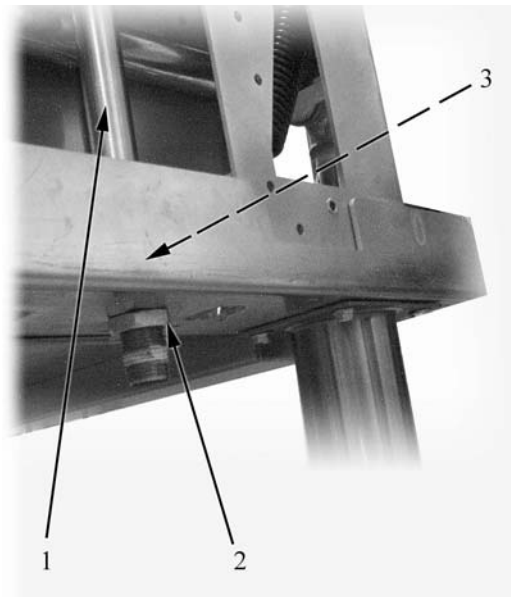

Fig. 21
- unscrew the fixing nut of the water column extension (pos. 2 in Fig. 21);